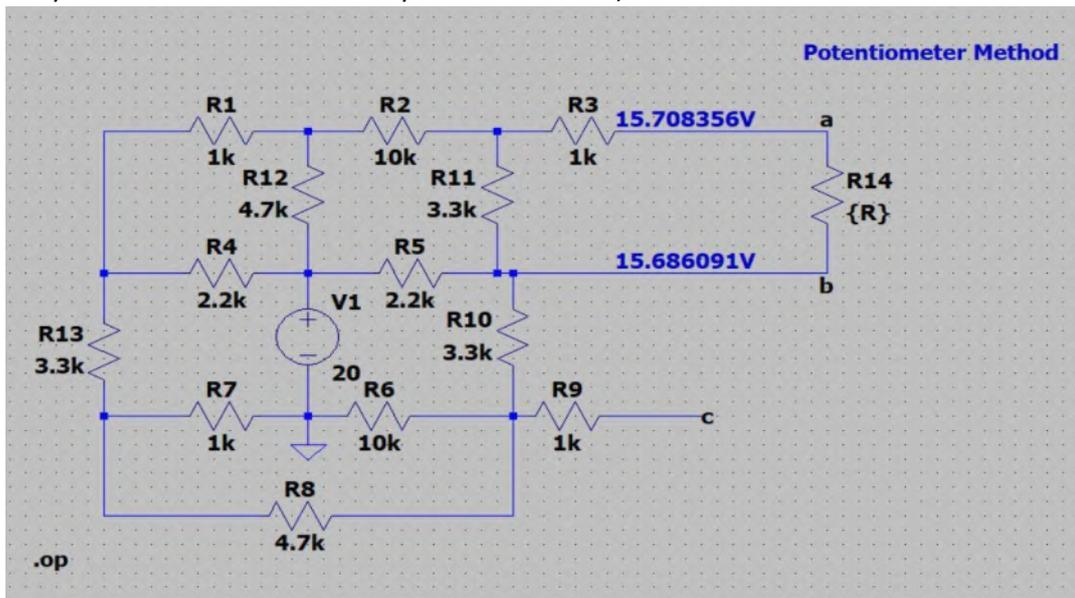

Figure: 2
- 3) Place a resistor (R14 in figure 2) between the nodes a and b as shown by figure 2.